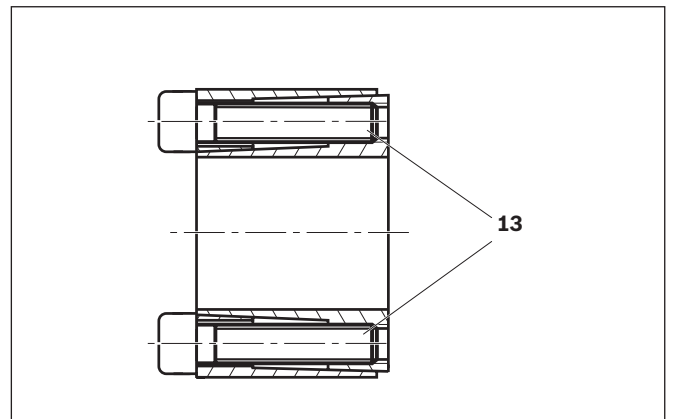

Fig. 21: Tensioning unit
5. Push the tensioning unit (8) into the belt pulley (7) up to the stop.
6. Evenly tighten the screws (13) cross-wise in several stages to the specified tightening torques ➔ Fig. 21 on page 23.